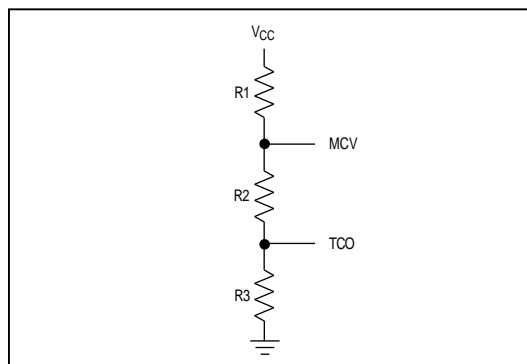
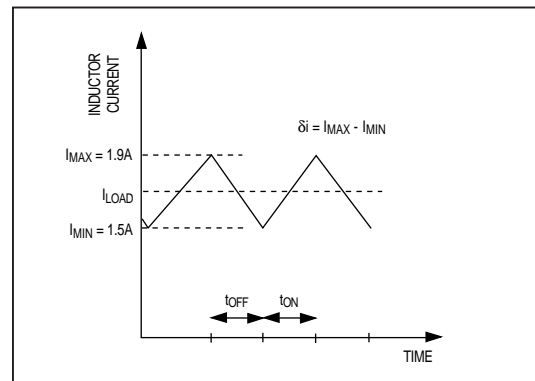

Figure 9. Resistor Configuration for MCV and TCO
Figure 10. Inductor-Current Waveform in Continuous-Conduction Mode
7) Select Maximum Cell Voltage (MCV) and Temperature Cutoff (TCO). The MCV and TCO can be selected with a resistor-divider combination (Figure 9). In our example, TCO has been set to +10°C, which corresponds to a voltage of 1.72V at the TS pin. The MCV for most fast-charge batteries can be set to about 1.9V. To minimize the current load on VCC, choose R1 in the range of 20k Ω to 200k Ω . In this example, choose R1 = 60.4k Ω , then calculate R3 and R2 as follows:
In order to provide high currents with minimum ripple, the device must function in the continuous-conduction mode. Figure 10 shows a current waveform of an inductor in the continuous-conduction mode (where the coil current never falls to zero).
The average load current (I_{LOAD}) through the inductor must be 1.7A, so a peak current (I_{MAX}) of 1.9A should give a fairly low ripple while keeping the inductor size minimal. This means that the total current change (Figure 10) across the inductor is $\Delta I = 2(1.9 - 1.7) = 0.4A$.
The MAX2003/MAX2003A can use several other circuits to charge batteries. Figure 9 shows a circuit that uses a Darlington transistor to regulate the current a six-cell NiCd battery pack receives. Figure 10 shows a gated current-limited supply being used to charge a Duracell NiMH battery pack. Table 6 lists the external components used in these two application configurations.